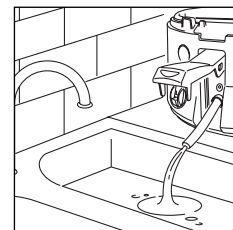

fig. 21
- Wash the bowl with hot water and washing up liquid. Always use the oil drainage hose (if fitted) to empty out the water as shown in fig. 21. Then rinse and dry carefully; remove any remaining water which has collected in the oil drainage hose.